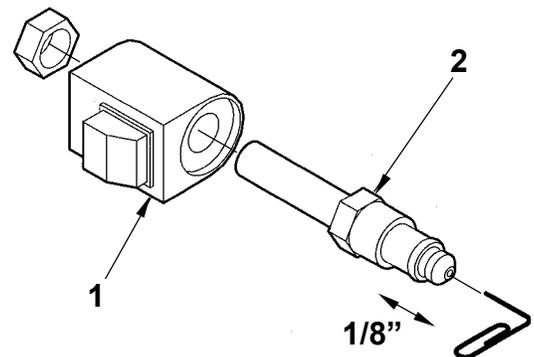

FIGURE 2
2. Check the Valve Stem by removing the Coil Assembly, (Item 1, Fig. 2). Unscrew the Valve Stem, (Item 2, Fig. 2), from the Pump. Push on the plunger that is located inside the Valve Stem by inserting a paper clip in the end. If the Plunger does not move freely approximately 1/8", replace the Valve Stem.